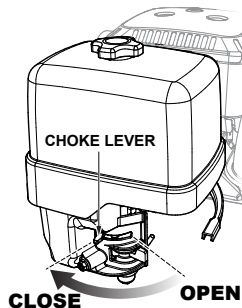

Figure 13. Choke Lever
- To start a cold engine, move the choke lever (Figure 13) to the **CLOSED** position.